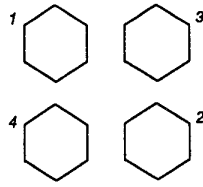

Figure 1.
15. Tighten alternate side rod nuts in 15 lb ft/ 20 Nm increments to 60 lb ft/80 Nm as shown in figure 1.